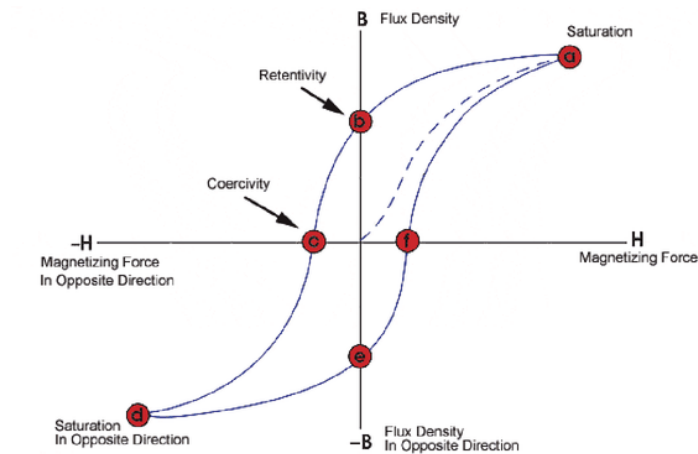

Figure 2 - Hysteresis Loss
In Figure 2 above, it shows the relationship between the magnetizing force (H) and the flux density (B) and is shown on a hysteresis curve.